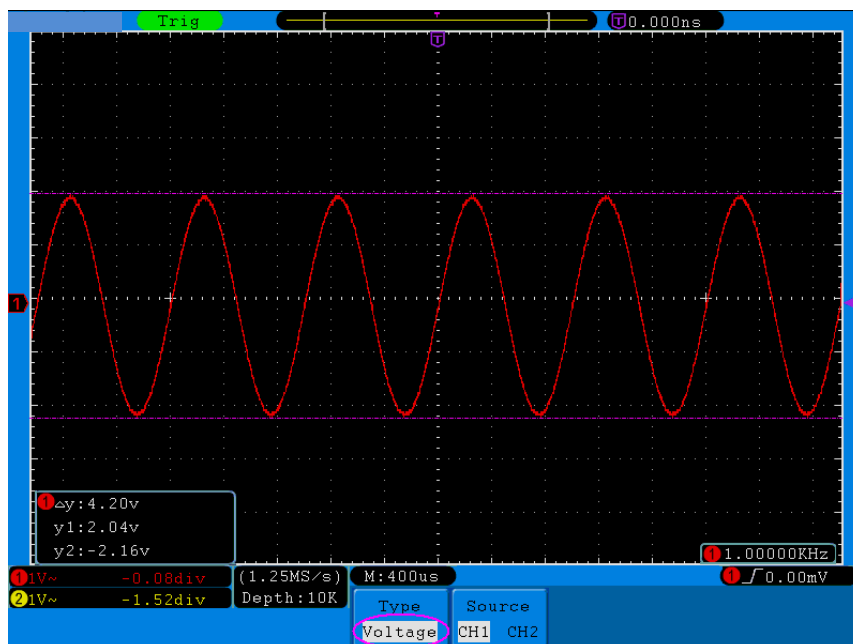

Figure 5-72 Waveform of Voltage Cursor Measurement
4. According to the measured waveform, adjust the positions of Cursor1 and Cursor2 by turning the **VERTICAL POSITION** rotary control of CH1 and CH2. Cursor increment window at the left bottom of waveform shows absolute value of D-value of cursor 1 and cursor 2 and the present position of the two cursors (see Figure 5-72).